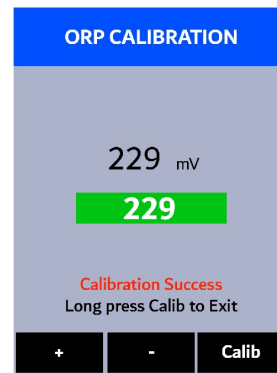

Figure 52.
9. Press **Calib** (**OK**). The message **"Calibration Success"** will appear on the display (Figure 52).